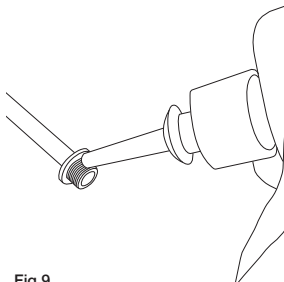

Fig.9
- Before refitting, the application of low-strength Loctite 222 to the screw threads is recommended (Fig. 9).